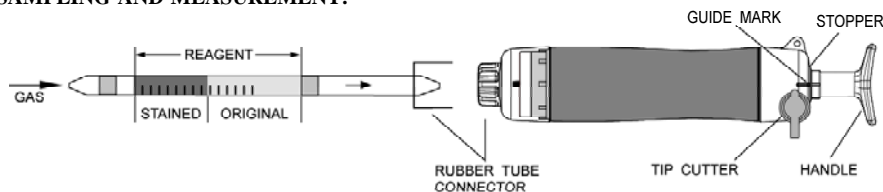

Fig.1
- ② Insert the detector tube into aspirating pump securely as shown in Fig.1. (Arrow mark shall point to the pump.)
- ③ Align the guide marks on the shaft and stopper of the aspirating pump.
- ④ Pull the pump handle at full stroke locked position and wait for 2 minutes or until the completion of sampling is confirmed with the flow indicator of the pump (See descriptions about the flow indicator in the instruction manual of the pump).
- ⑤ On completion of sampling, read the scale at the maximum point of the stained layer.
- ⑥ If the discolouration is over the scale, change the tube and carry out the following 1/2 pump strokes procedure.